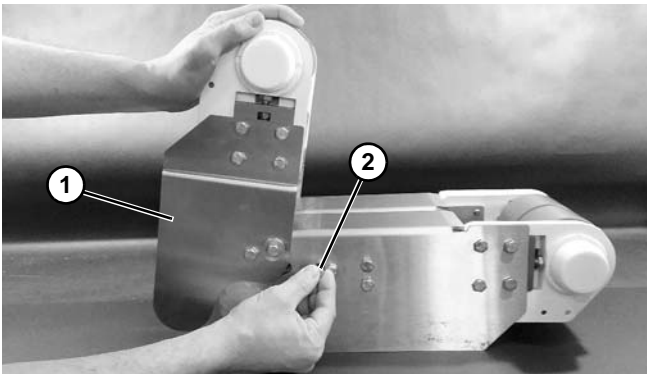

Figure 47
To lower idler tail, push idler tail (Figure 47, item 1) to its maximum up position, and move locking lever (Figure 47, item 2) up to disengage lock. Lower tail slowly.